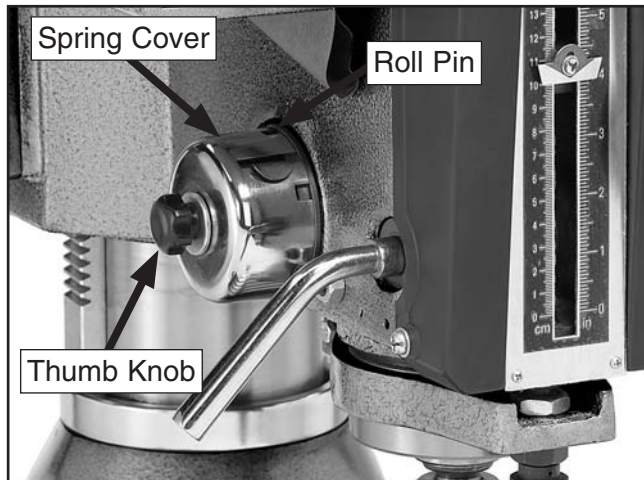

Figure 41. Spring cover.
3. Loosen the black thumb knob two or three turns (**Figure 41**).